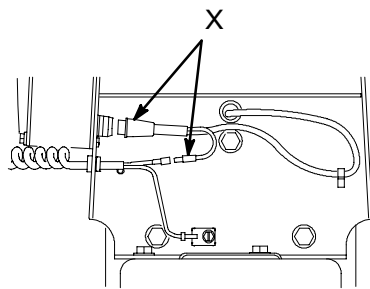
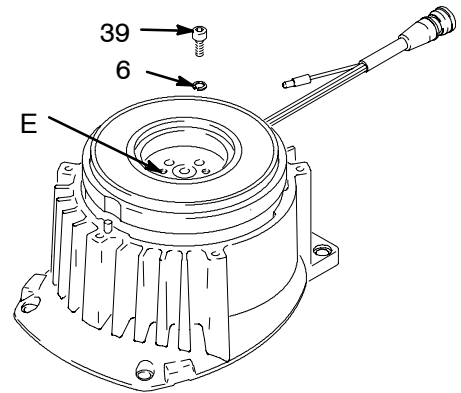
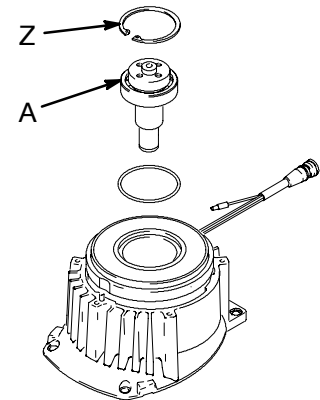

Fig. 5 Bottom View 8739A
Fig. 7 8701A
Fig. 8 8703A
4. Fig. 7. Place pinion assembly (8) on bench with rotor side up.
5. Remove four screws (39) and lockwashers (6). Install two screws in threaded holes (E) in rotor. Alternately tighten screws until rotor comes off.
6. Fig. 8. Remove retaining ring (Z).
7. Tap pinion shaft (A) out with plastic mallet.
6. Install three screws (27) through mounting plate (D) and into clutch housing (3).
7. Install key (1) in bushing (112). Apply Loctite® to three bolts (112). Install bushing in pulley (2) with three bolts (112b). Install set screw (112a) in bushing. End of jackshaft (3c) must be 0.090 in. below flush with end of bushing.
8. Hold pulley (2) and install four screws (3a) and washers (3h) in hub (3d). Torque to 125 in-lb (14 N·m).
9. Install drive belt shield (74).
10. Push drive housing (12) and pinion housing (8) assembly onto clutch housing (3). Tap lightly on front of bearing housing (17) with a plastic mallet to push drive housing and pinion housing assembly onto clutch housing.
11. Install five screws (5) and lockwashers (6).
12. Fig. 8. Tap pinion shaft (A) in with plastic mallet.
13. Install retaining ring (Z).
14. Fig. 7. Place pinion assembly on bench with rotor side up.
15. Apply locktite to screws. Install four screws (39) and lockwashers (6). Alternately torque screws to 125 in-lb until rotor is secure.
16. Install pinion assembly with five screws (5) and lockwashers (6).
17. Fig. 5. Connect field cable (X) to pressure control.